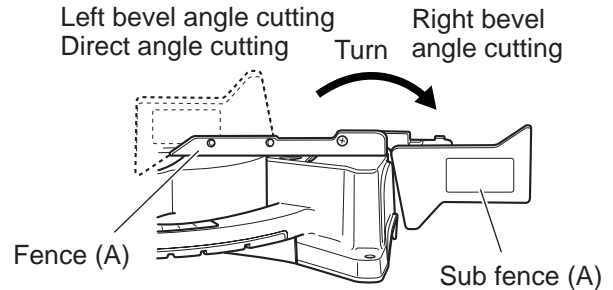

Fig. 19
In the case of right bevel cutting, raise sub fence (A) up as illustrated in Fig. 19 and then turn it clockwise.